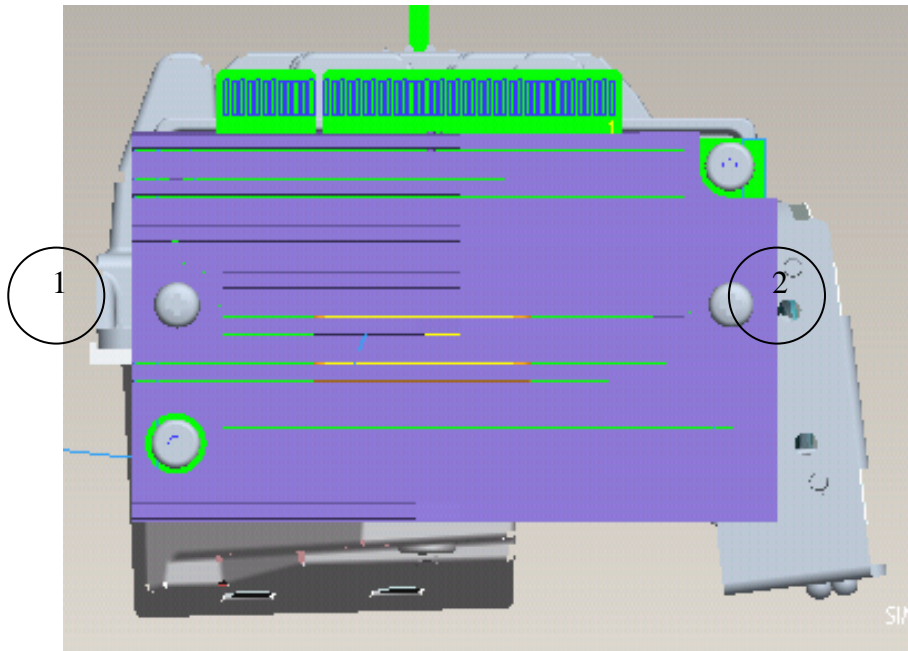

Fig. 10-8
10.8-2 Fasten "Assy spring screw" Sequence as blow (Fig.10-8)